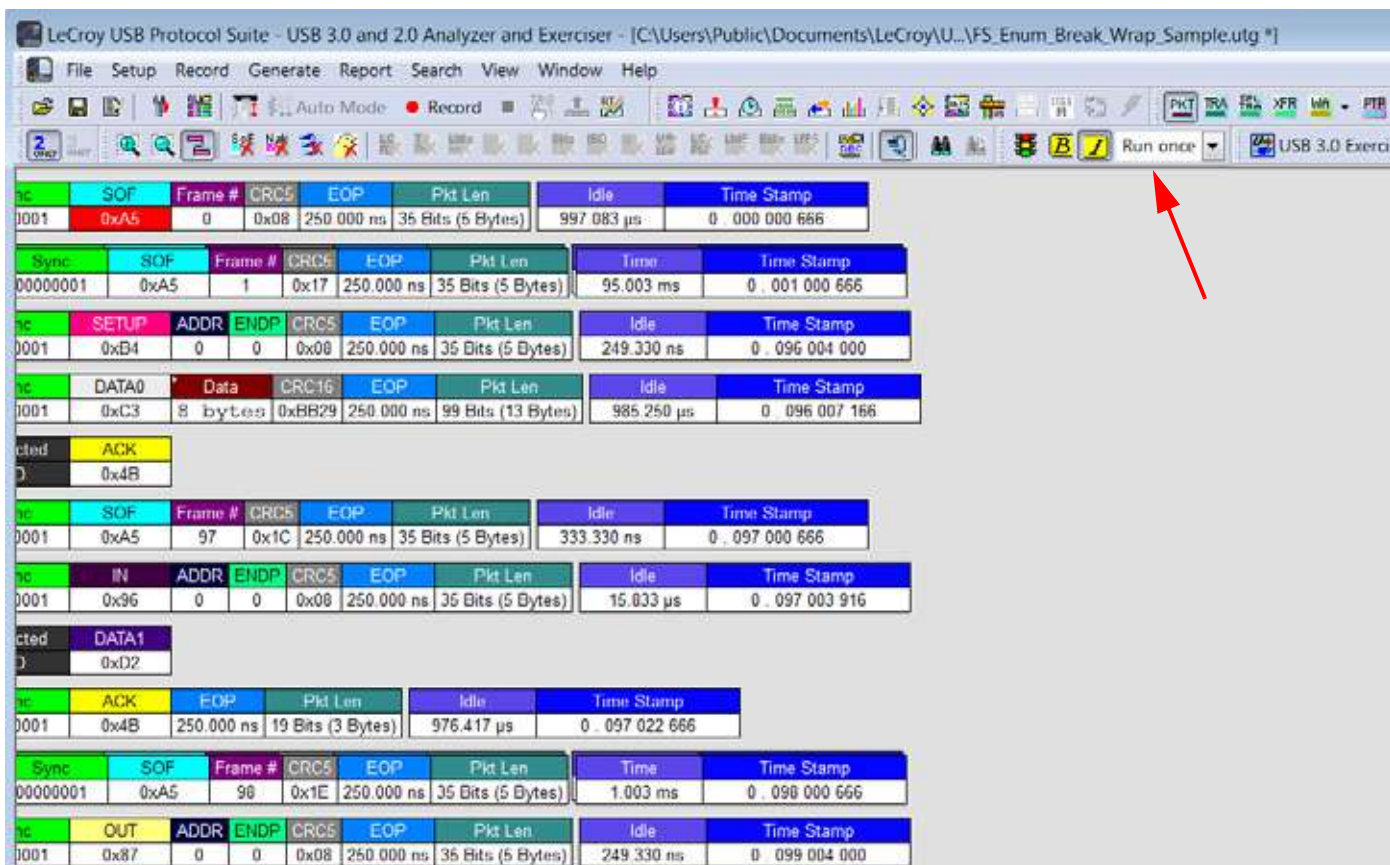

Figure 11.17: Traffic Generation File
4. Click **Open**. The file opens (see Figure 11.17 on page 656.)